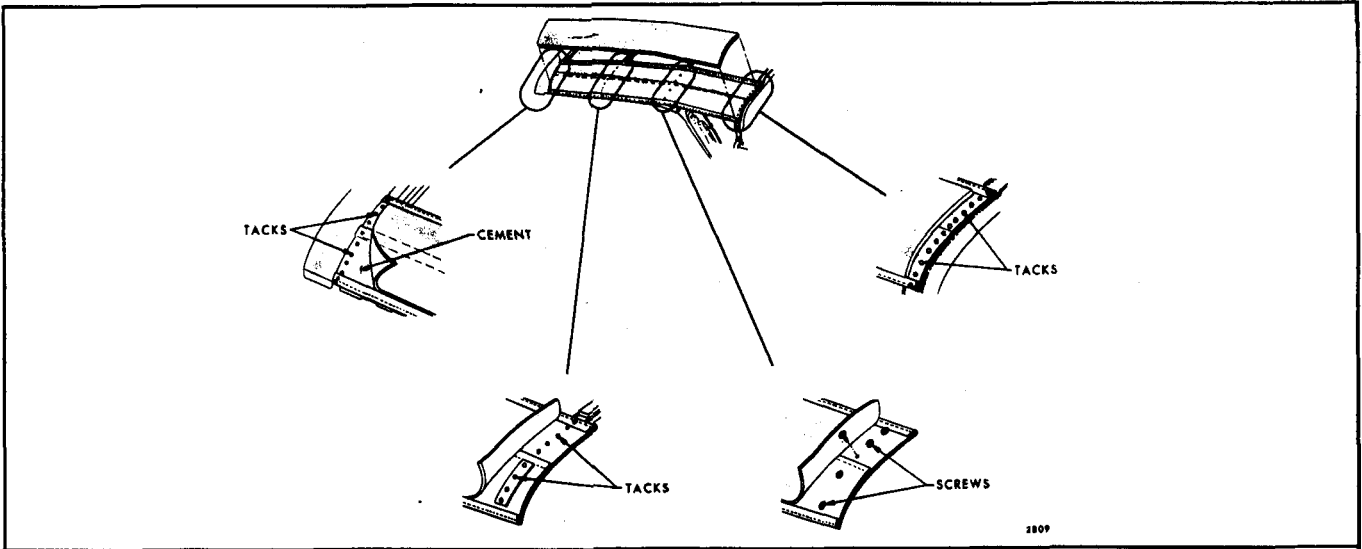

Fig. 12-11-Side Stay Pad Attachment
17. Remove polyurethane and side stay pads. Stay pads are secured with tacks or staples to front roof rail, front roof bow and rear roof bow, and with screws to center bow (Fig. 12-11).
and with rear bow spacer sticks firmly in place, install side stay pads. Align stay pads with depression in rear bow and tack to secure. Pull stay pads forward for snug fit and tack to front roof rail. Tack stay pads to front bow. Secure stay pads to center bow with screws. Check alignment of polyurethane padding on stay pads to determine cementing area, and remove. Apply an approved trim cement to stay pads uniformly and install polyurethane padding. Trim off selvage end (excess material) of stay pads just forward of rear rolled edge of rear bow. Also, trim at front roof rail as required (Fig. 12-11).